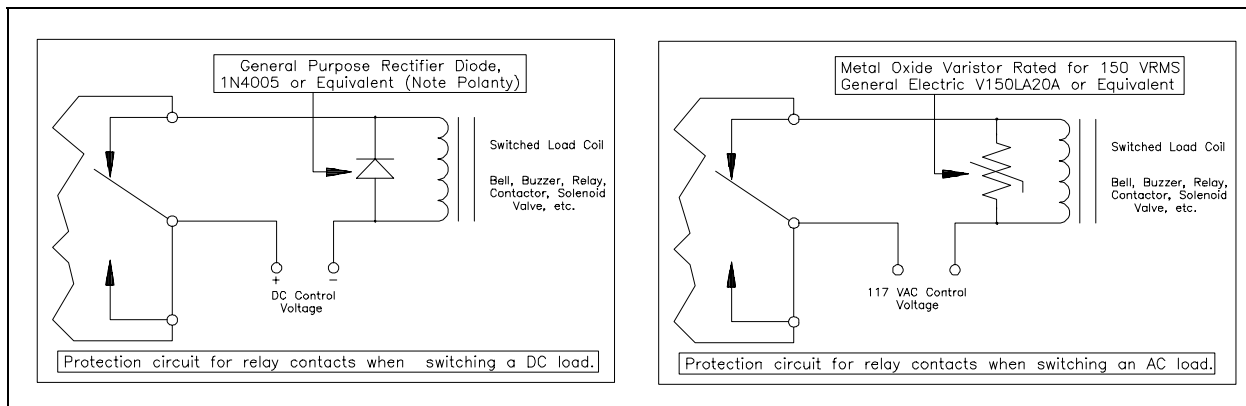

Figure 911-5 Relay Contact Protection Scheme
- ! Relay contacts may require external protection to suppress transients. See figure 911-5 and the section Relay Protection Circuitry below.
Heavy duty relay contacts are provided in the NOVA-Sensor. These contacts are rated for resistive loads. If used for switching inductive loads, such as relay coils, lamps, beacons, etc., you must provide suitable suppression at the load. This will prevent burning the relay contacts, and also suppress harmful transients which can affect the operation of electronic equipment. See figure 911-5 for the recommended protection for DC and AC loads.